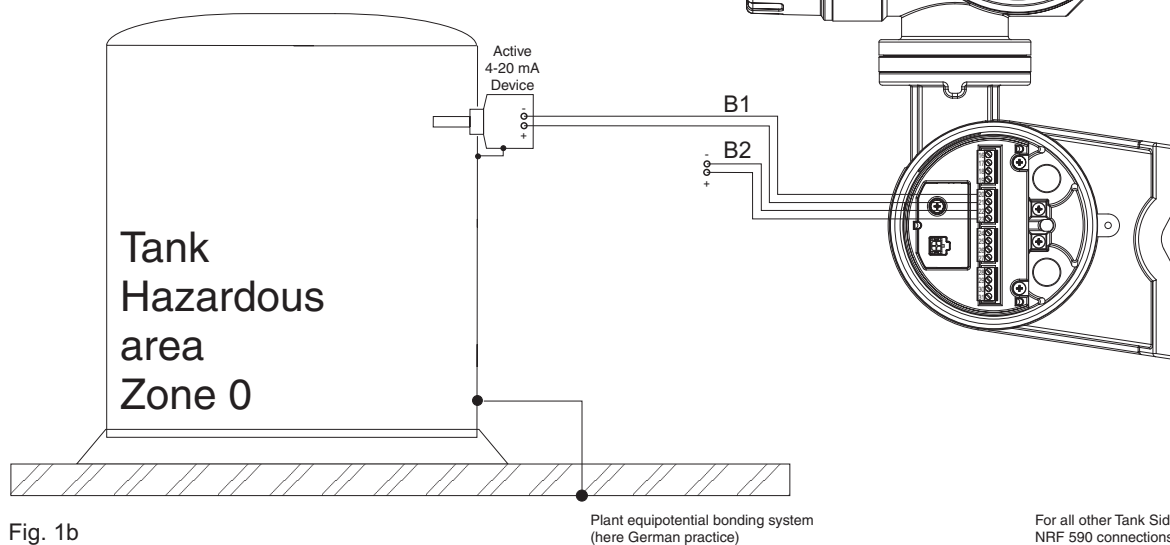

Fig. 1b
4.2 The connection values given apply for connection of active external equipment as shown in fig. 1b. For connection of loop powered passive devices using the power output B2 as shown in fig. 1a the entity values of circuit B2 apply.